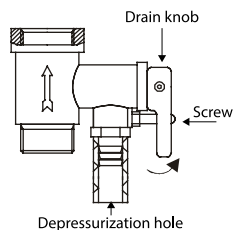

Fig. 10
6. To drain water from the internal tank properly, you need to use the drain hole (only for RS2 line) (it is necessary to unscrew a plug, covering the drain hole), water can also be drained through a composite relief valve (Fig. 10) (unscrew the composite relief valve drain knob screw and set the drain knob to the upper position, at that hot water tap must be open, and cold water supply valve must be closed).